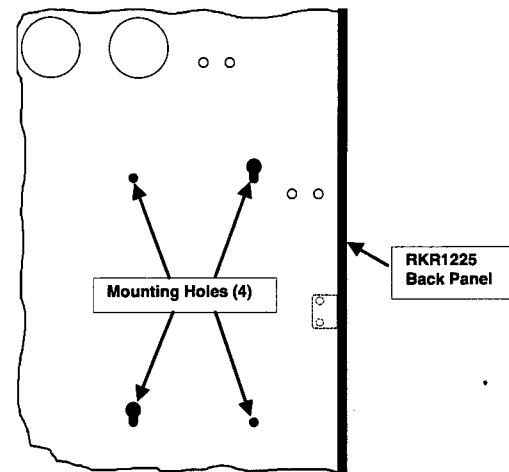

Figure 2-5. RKR1225 Battery Revert Mounting Hole Pattern (Bottom View)
5. The module mounts near the center of the back on the inside (your left) of the RKR1225 chassis. Observe the hole pattern on the bottom (your right) of the RKR1225 chassis as shown in Figure 2-5.